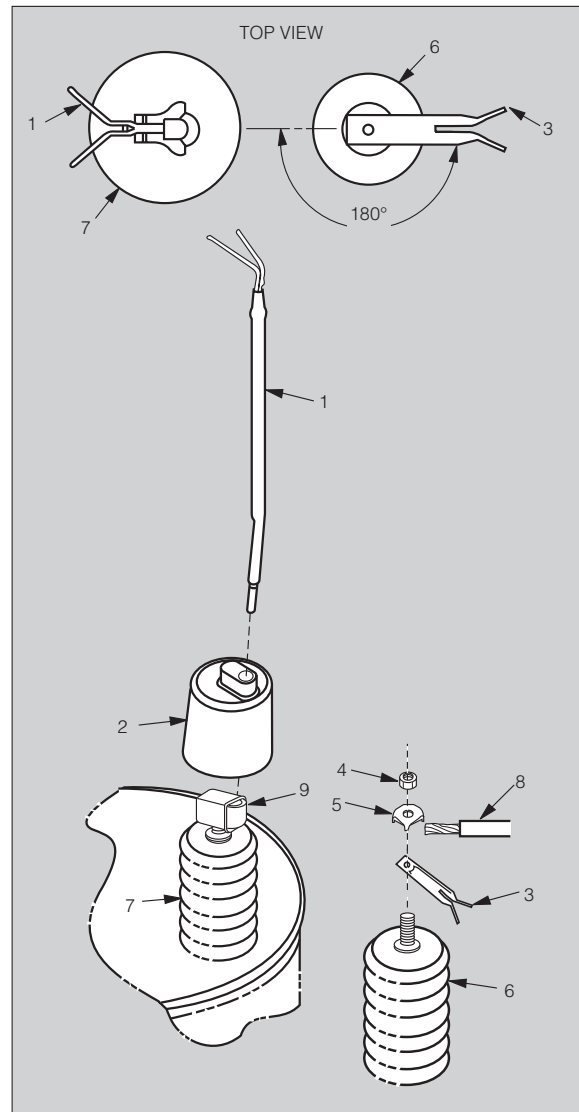

Figure 1. Flipper fuse kit assembly
2. Insert the fuse cutout transformer contact arm (Item 1) through the optional transformer bushing wildlife protector (Item 2) and into the transformer terminal connector (Item 9). Position the contact arm so that the open end of the "V" faces away from the arrester, as shown in Figure 1. Tighten the transformer terminal securely and lower the optional wildlife protector down over the bushing terminal.
3. Install the hardware and line lead onto the top terminal of the arrester as shown in Figure 1. Position the fuse cutout arrester contact arm (Item 3) so that the open end of the "V" is facing away from the transformer terminal as shown in Figure 1. Position the line lead under the wire clamp (Item 5) and torque the hex nut (Item 4) to 20 ft-lbs.